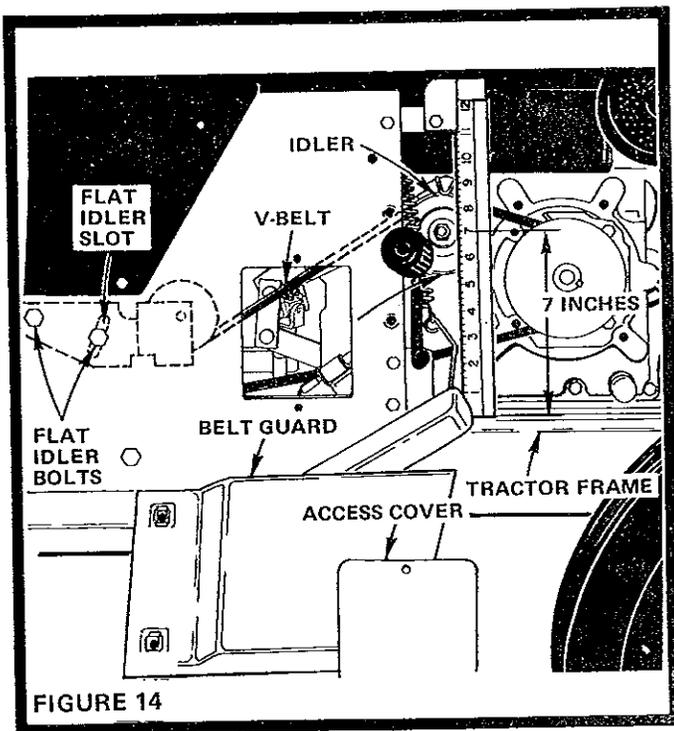

FIGURE 14
- Remove Belt Guard and Access Cover (Fig. 14).
- Recheck Idler to Tractor Frame measurement. It should be at seven (7) inches within an eighth of an inch.